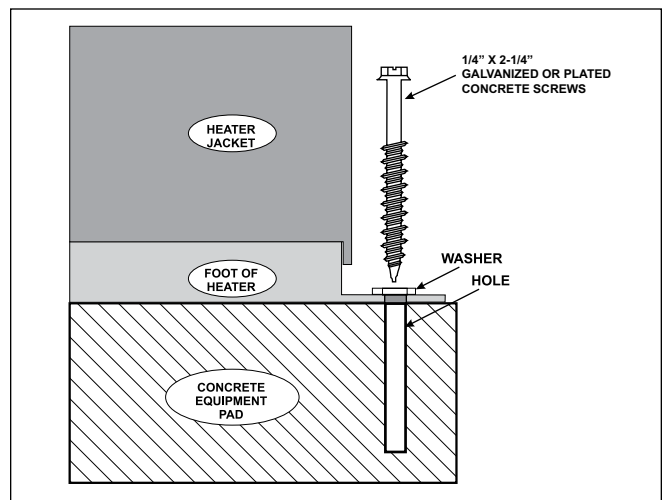

Figure 4. Anchor Heater To Equipment Pad
Mounting screws are not provided with this heater. After placing the heater on the equipment pad, drill a hole in the concrete at each of the four (4) tabs on the feet of the heater. (The correct size drill bit is usually provided with the concrete screws when purchased). Place a screw in each of the holes and fasten the heater to the equipment pad, see Figure 4. **Do not over-torque the screws.** Other jurisdictions may have similar requirements. Please check your local codes for relevant details.